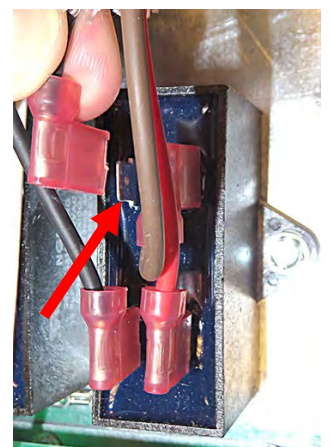

Figure 25
29. Connect pin-2 wire to the open connector on the right capacitor (see Figure 25 and wiring diagram on last page).